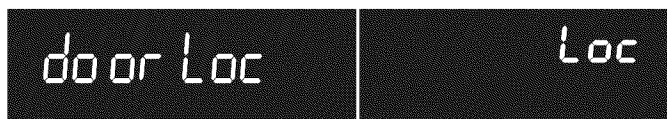

Figure 24: Display showing door locking and in locked position
2. Press and hold **Oven Lockout** for 3 seconds. **door Loc** will appear in the display (Figure 24). The motor driven door latch mechanism will begin locking the oven door automatically. Do not open the oven door. Allow about 15 seconds for the oven door to completely lock. Once door is locked, **Loc** will appear in the display.